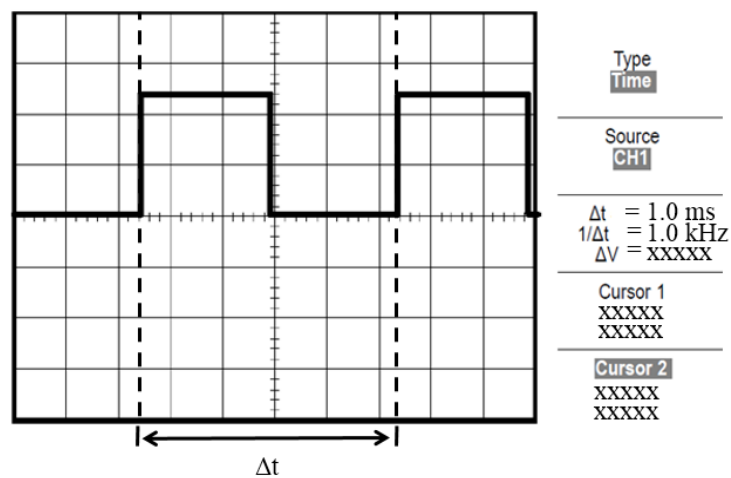

Figure E1.5 Measuring Period and Frequency
Measure the Frequency and Period of the test signal using Time Cursor following the steps below (see Figure E1.5):
5. You can obtain the measured period, Δt and frequency, $1/\Delta t$ in the Cursor Menu (refer to Figure E1.5). Record your measured frequency and period below: